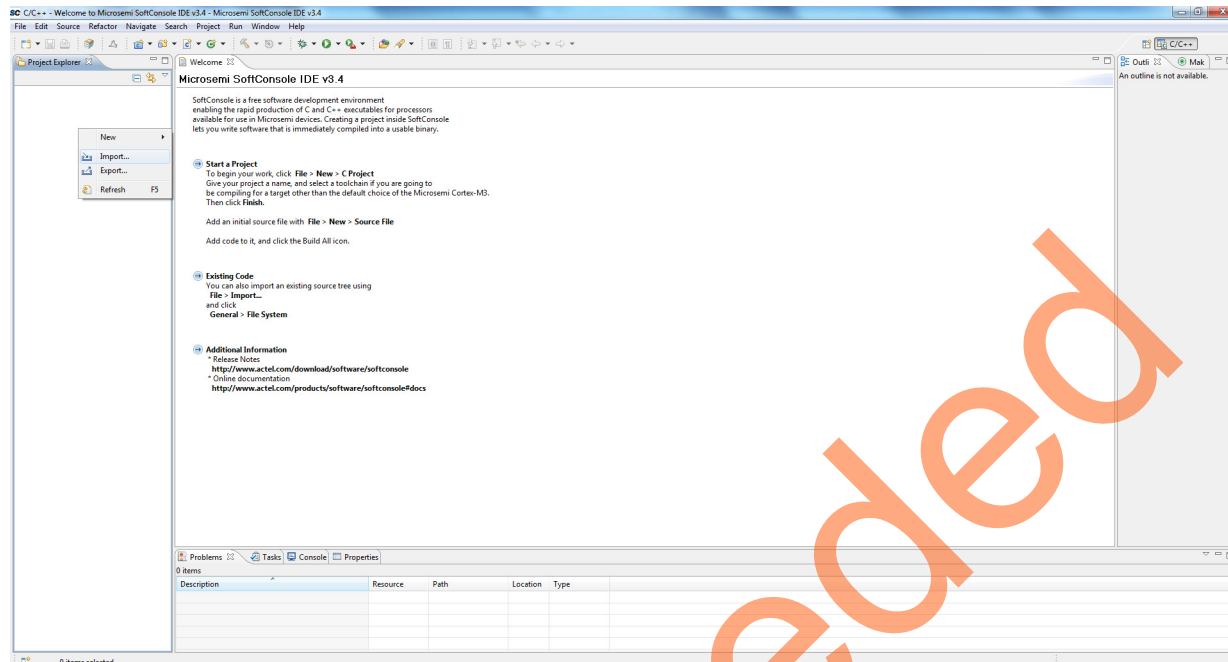

Figure 30 • SoftConsole IDE - Import
- Right-click the **Project Explorer** window and choose **Import** as shown in Figure 30.